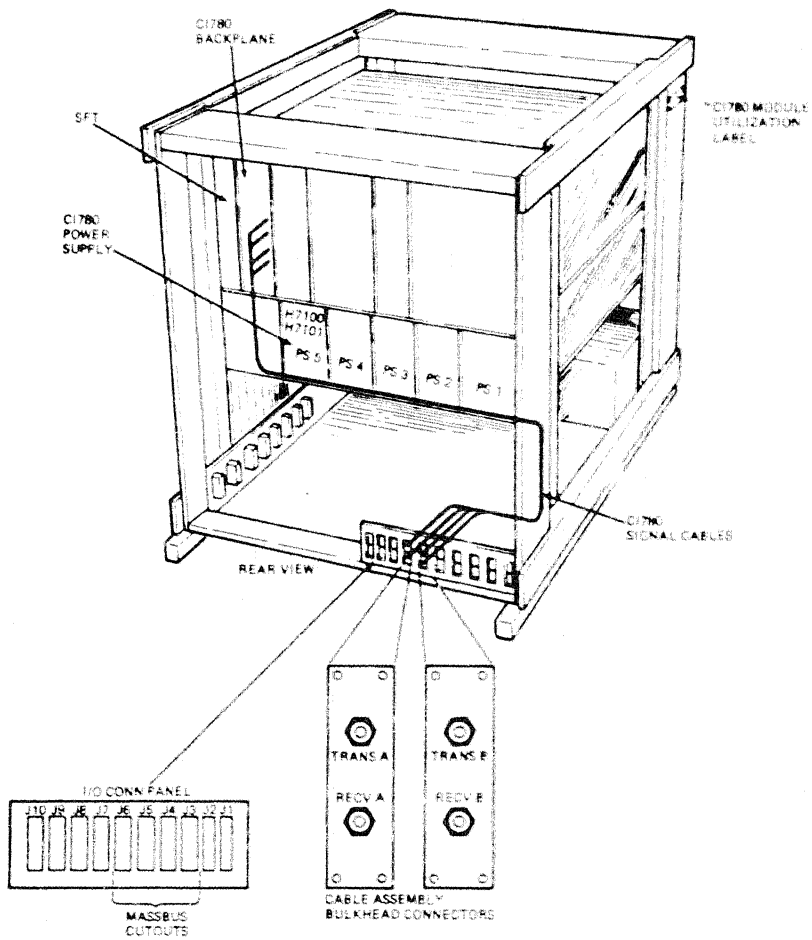
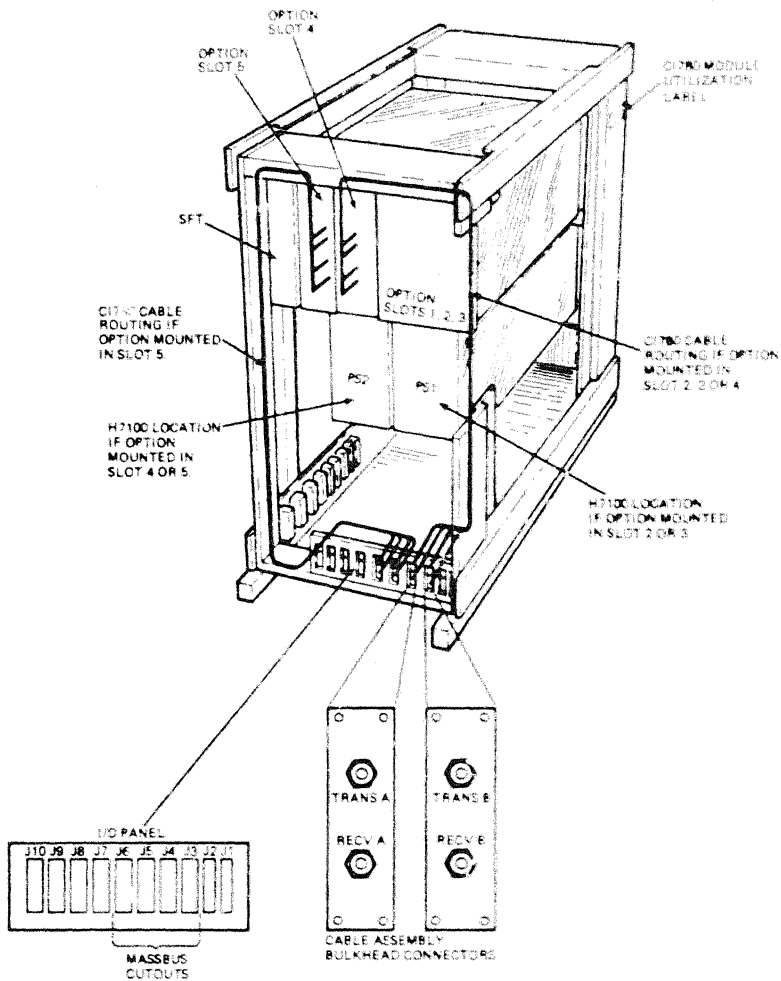

Figure 2-11 CPU Cabinet Cable Assembly Connection Details
Figure 2-12 Expansion Cabinet Cable Assembly Connection Details
5. From the front, place the label on the inside of the left vertical cabinet channel (Figure 2-12).
1. Mount the bulkhead connector plate of each cable assembly, from the inside, to the MASSBUS cutouts on the I/O panel at the bottom of the cabinet. Refer to Figure 2-11 (CPU cabinet) or Figure 2-12 (H9602-H expansion cabinet) for details.
2. Route the four coaxial cables up through the cabinet cable ways to the backplane. Take care to avoid any sharp bends, kinks, or twists in the cables (Figure 2-11 or 2-12).